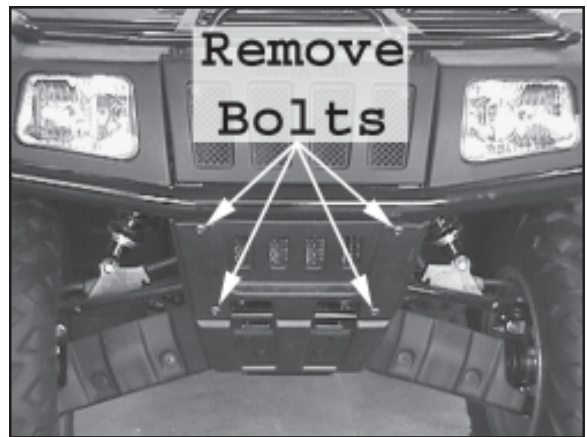

Figure 4 Remove Bolts
1. Remove the bolts as shown in Figure 4.